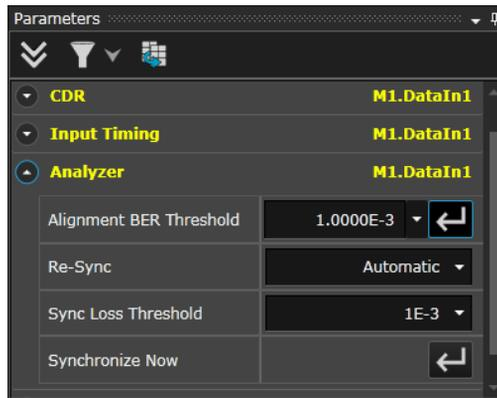

Figure 47 Alignment BER Threshold
- 14 Click on the **Alignment BER Threshold** button to synchronize and align the error detector as shown in Figure 47 on page -88.